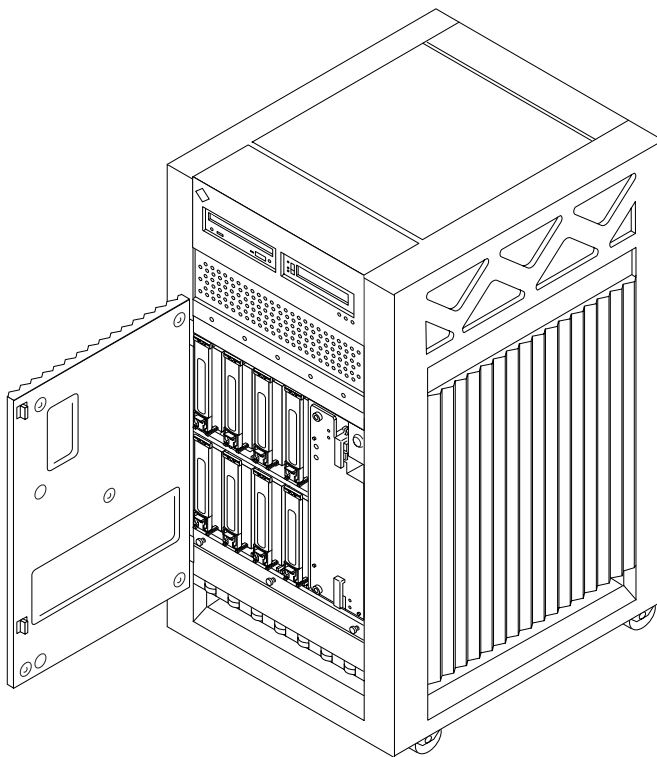

FIGURE 8-4 Disk Drive Access
1. **Open the system front door (FIGURE 8-4).**